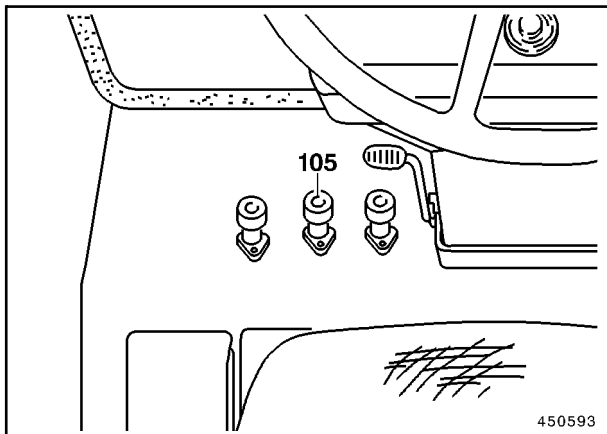

Fig. 3
- Depress button (105, Fig. 3).